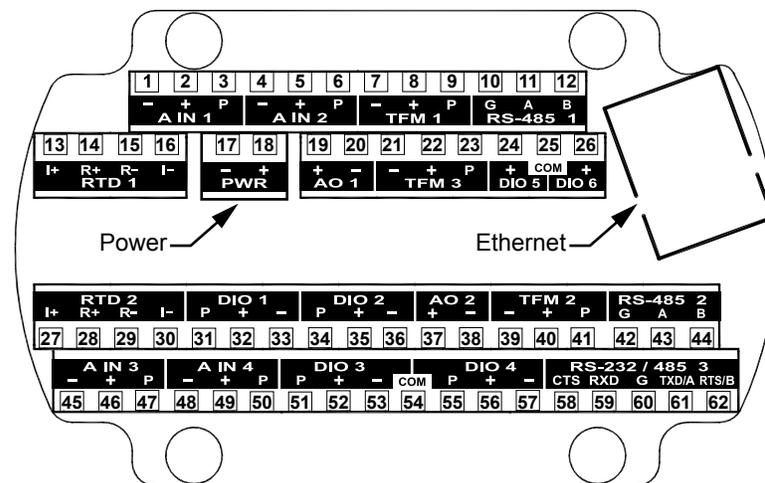

Figure 3.1—Terminal board illustration with numbered terminals
1. Remove the rear cover of the enclosure to access the terminal board. All wiring connections can be made to this board with the exception of the lithium batteries. Wire in accordance with the wiring diagrams shown on page 54 through page 61. See Figure 3.1 for help in locating the terminals by number.